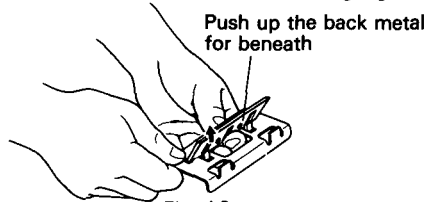

Fig. 16
- (4) Finally, retighten the machine screws to securely fasten the cutter blade and the back metal, thereby completing the blade height adjustment procedure.
- (5) Holding the set gauge as shown in Fig. 16, push upward on the back metal and remove it from the set gauge.